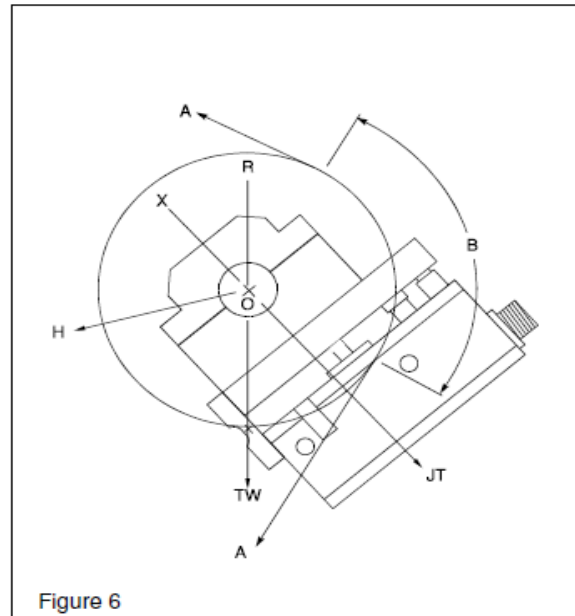

Figure 6
The total resultant load per cell (JT) is calculated by resolving web force vectors acting upon the Tensioncells, with respect to the Loading Line (OX). (JT) is the resultant of both TENSION and TARE loads, PER CELL! (See Figure 6)